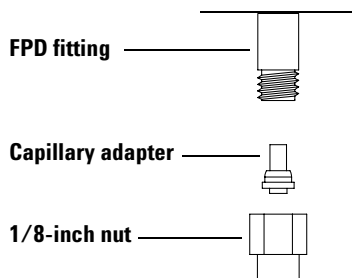

Figure 24 Capillary adapter
- 1 Install the capillary adapter in the detector fitting (Figure 24).